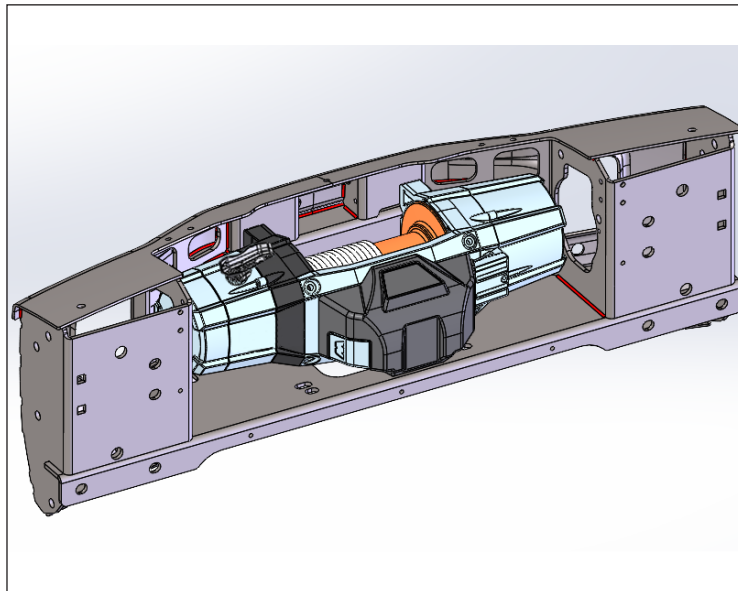

Figure 2
1. Place the winch inside the main stamping with the WARN logo on the center of the winch facing up (fig. 2).